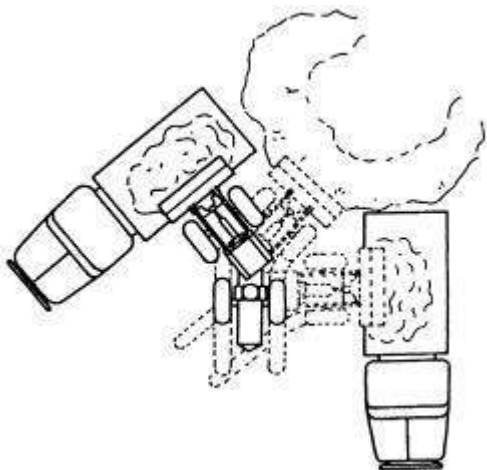
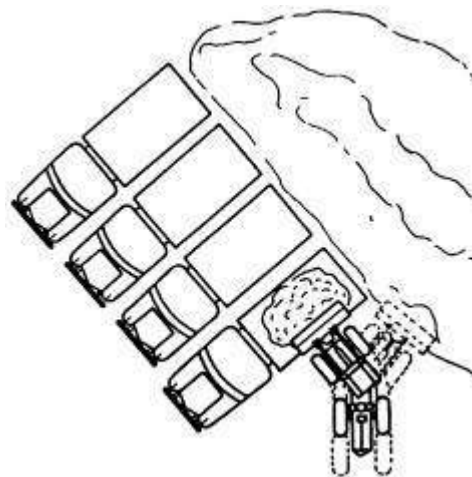

Fig. 4.38. "V" Loading Method
Fig. 4.39. Step Loading Method
1. When loading from a bank or stockpiling, use the V-method shown in Fig. 4.38, or the step loading method shown in Fig. 4.39. Keep the trucks close to the work area to minimize loader travel. Keep work areas clean and level. When possible, spot the next truck to be loaded on the opposite side as shown in Fig. 4.38.
Approach the bank or stockpile with the engine at full governed speed. Keep the bucket flat, working into the material at or near ground level. As the bucket penetrates the material, raise the bucket slightly. When the material boils to the top of the spillboard, roll the bucket all the way back, raise the bucket to provide ground clearance and, at the same time, disengage the forward travel of the loader as shown in Fig. 4.38. Back away in an arc from the bank or stockpile as show in Fig. 4.38 and 4.39 just far enough to allow turning of the loader for the approach to the truck. Digging in hard material can be aided by "wiggling" the bucket edge immediately after penetration. Operate the bucket control lever alternately between the roll back and dump positions. This action will loosen the material and improve bucket loading. Coordinated operation of the two hydraulic control levers as the bucket enters the material will yield satisfactory bucket loads. The boom assy need not be fully raised to dump the bucket. Adjust the dump height to the height of the side of the loaded vehicle.
Raise the bucket to provide ground clearance and, at the same time, disengage the forward travel of the loader. Back away in an arc from the bank or stockpile as shown in Fig. 4.38 and 4.39 just far enough to allow turning of the loader for the approach to the truck.